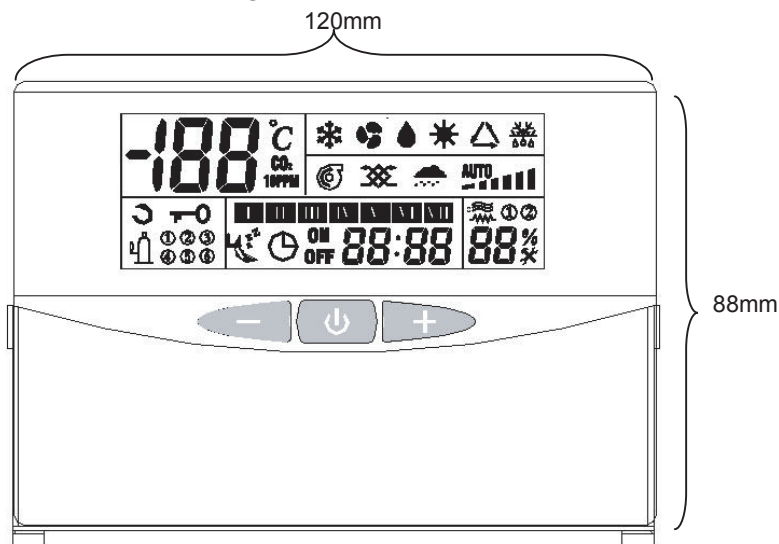

Figure 1
2.1 Wallpad Dimension, Figure 1